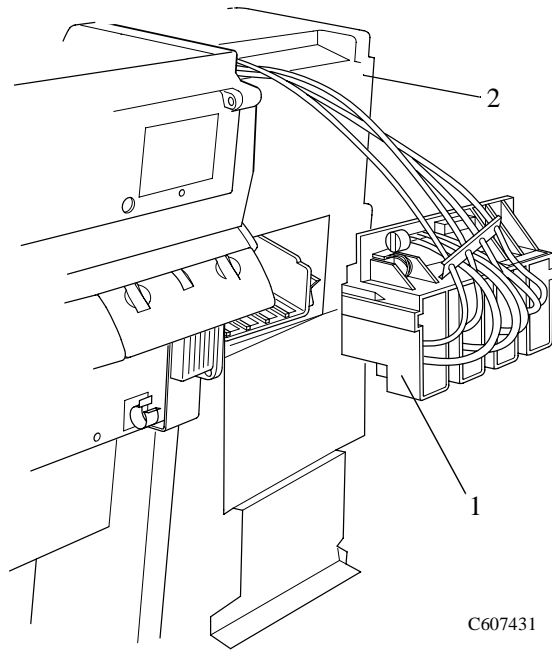

Figure 62: Ink Cartridge Tube Connector (pulled out)
13. Remove the ink cartridge tube connector (item 1) from the rear of the left hand cover (item 2), rest the assembly on the left hand cover (refer to Figure 62).